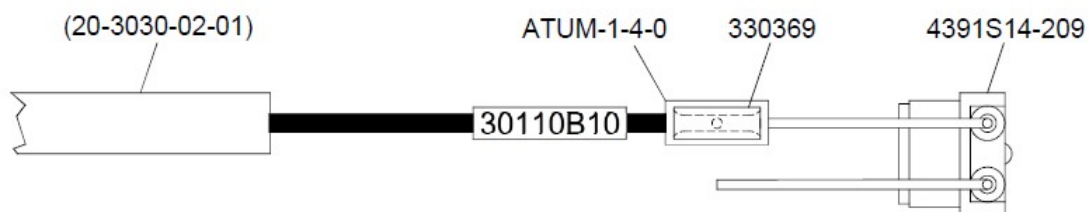

Figure 54: High Thermal Limit Switch Wire Installation
13.3.4.2 Splice together wire 30110B10 with either lead of the High Thermal Limit Switch according to Figure 54.